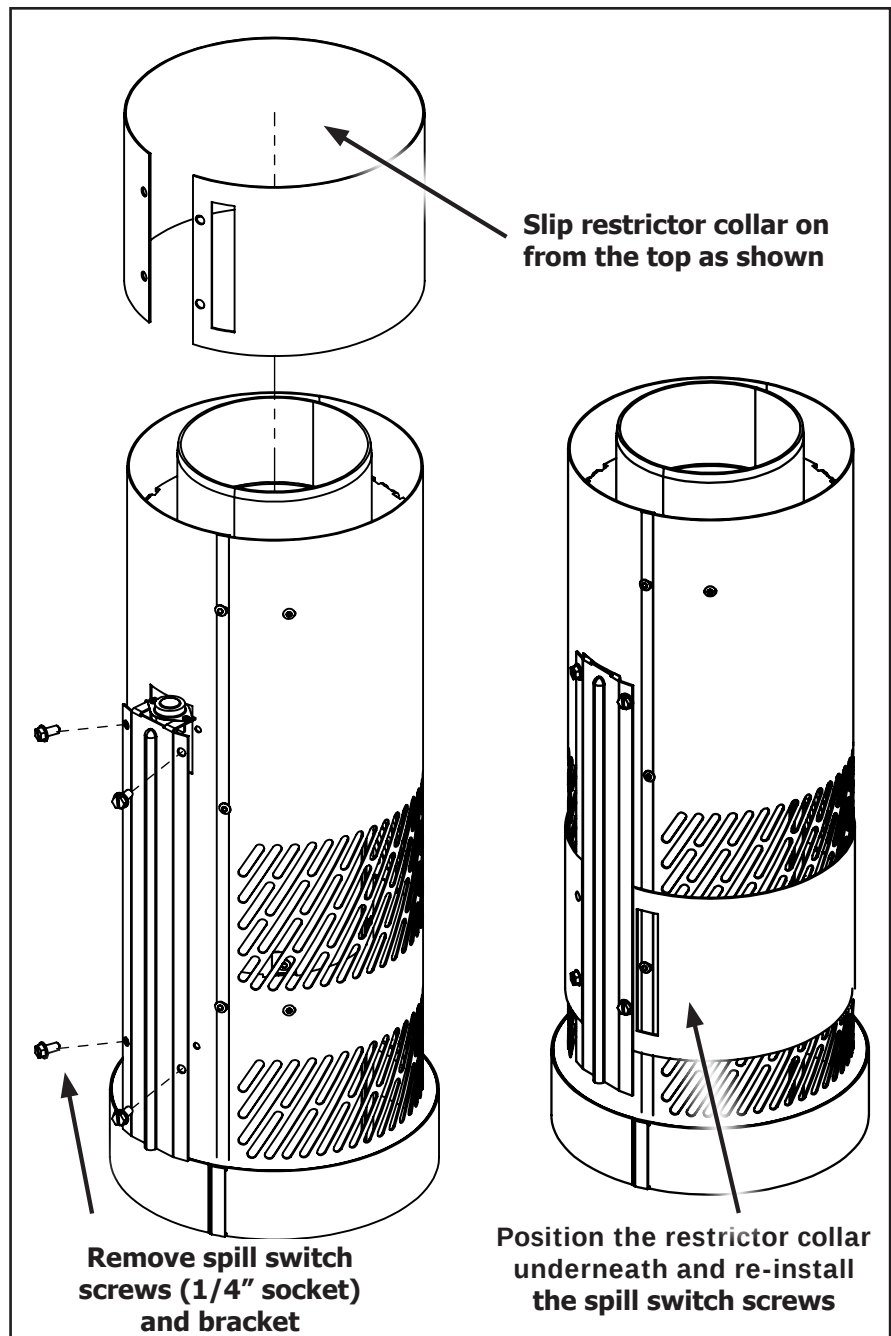

Figure 42: DrafhooD Restrictor Collar
2. Install the supplied restrictor collar onto the DrafhooD Adaptor as instructed below (Figure 42).